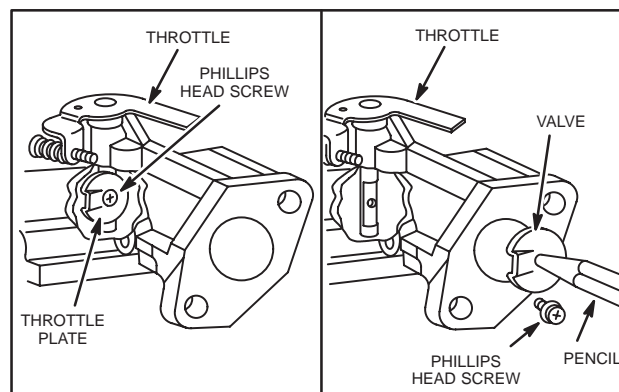

Fig. 183 – INSTALLING THROTTLE PLATE
1. Place new dust seal on throttle shaft and install in carburetor body, Fig. 183.
2. Install throttle plate in carburetor body and install Phillips or slotted screws, Fig. 183.